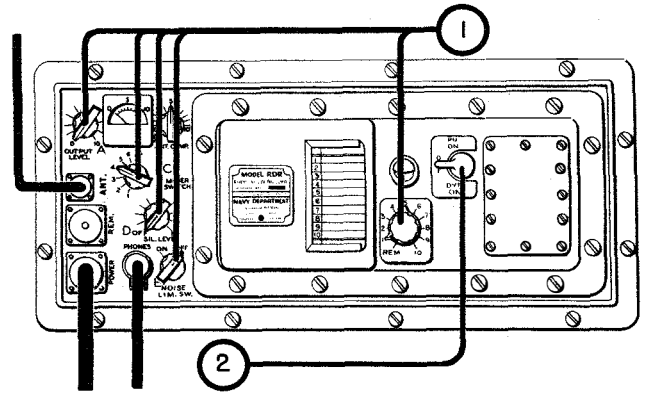

Figure 3-28. RDR Receiver Panel Controls
(1) STARTING.—To start the receiver proceed as follows:
Step 1. Set the controls on the front panel of the receiver (See Figure 3-28) to the positions indicated in the following tabulation: